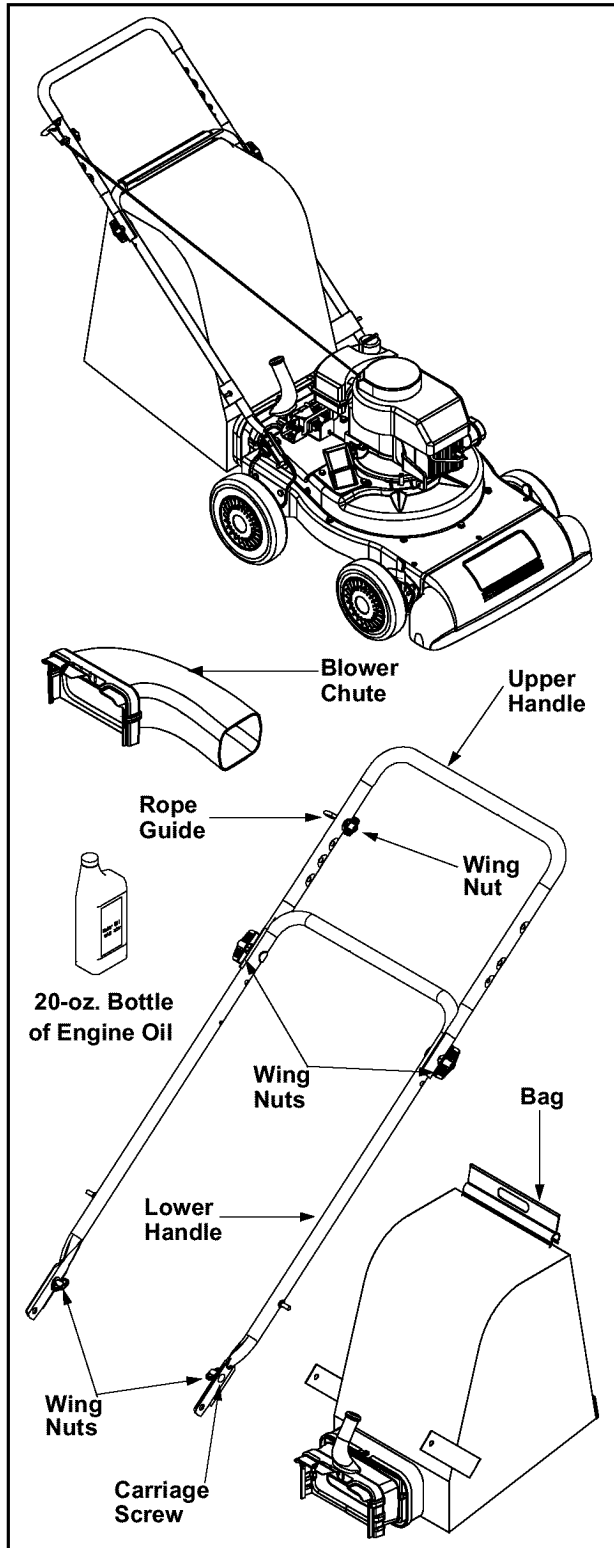

Figure 1
**NOTE:** Reference to right and left hand side of the Yard Vacuum is observed from the operating position. See Figure 1.
This Yard Vacuum has been completely assembled at the factory, except for the handle, bag, and blower chute. These parts are shipped loose in the carton. A pair of safety glasses and a 20-oz. bottle of engine oil are also included in the carton. See Figure 1.
### LOOSE PARTS IN CARTON (See Figure 1)
- Unfold the upper handle until it aligns with lower handle. Make sure the rope guide is on the right side of upper handle. See Figure 1.